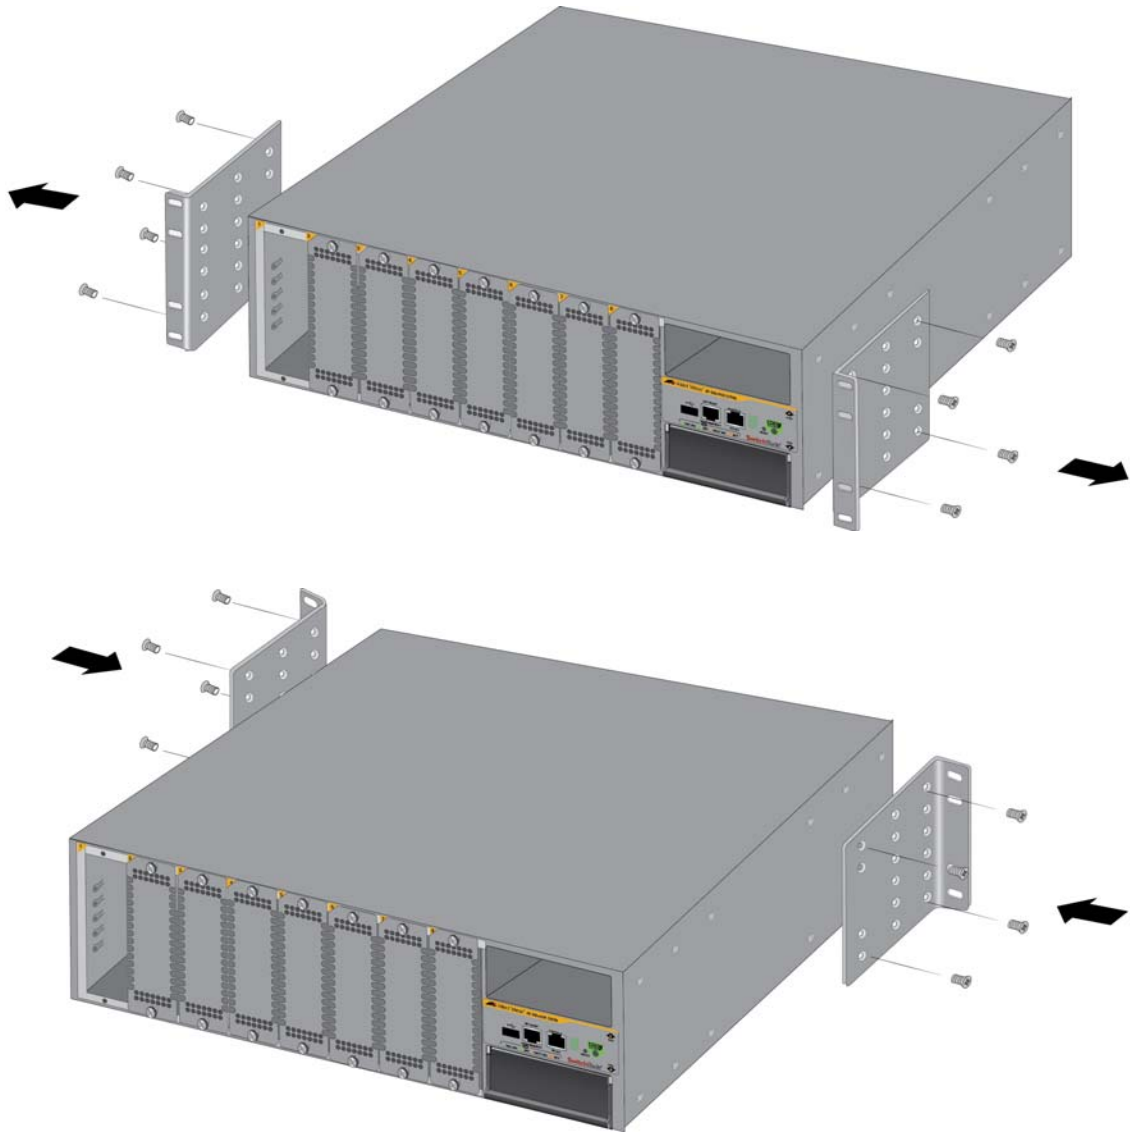

Figure 21. Example of Adjusting the Equipment Rack Brackets
To change the positions of the brackets, use a #2 phillips-head screwdriver to remove them from their default positions and secure them to the new locations. An example is shown in Figure 21 on page 56.
2. If you want to reposition the brackets from their pre-installed positions, remove them using a #2 Phillips-head screwdriver and secure them in their new position. Refer to Figure 21 on page 56 for an example.